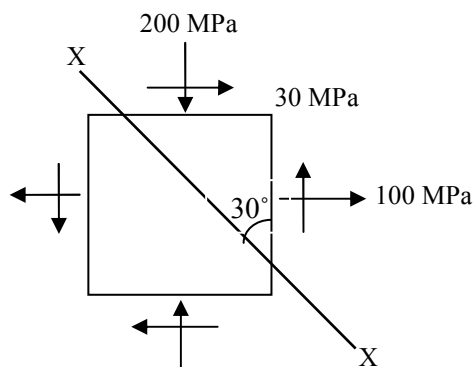

Fig. 1 Q.4 (a)
- Q.4 (a)** For an element shown in Fig.1, compute (i) principal stresses and their inclinations (ii) maximum shearing stress and (iii) normal and tangential stresses on a plane x-x making inclination of 30° with the vertical. 07